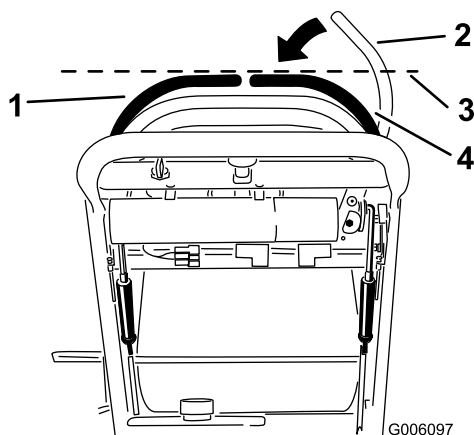

Figure 53
3. Push the right motion-control lever down out of the Neutral-Lock position (Figure 53).
4. Check if it aligns horizontally with the left motion-control lever (Figure 53).